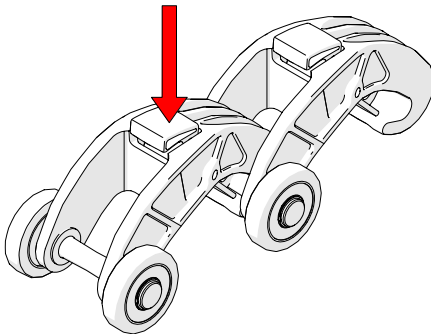

Fig. 41 - Press button
1. Press the button on the top of the QuickLink (Fig. 41).